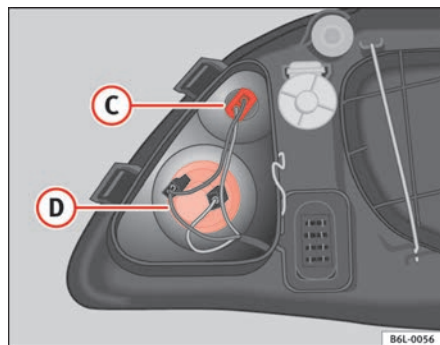

Fig. 157 Indicator lights
- Turn the lamp holder to the left and remove it from the casing ⇒ fig. 157 (D).